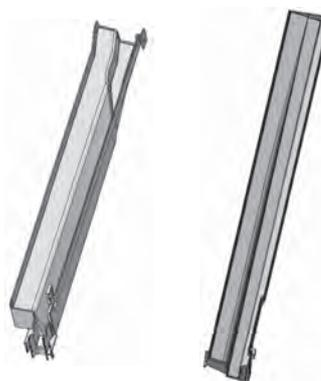

Figure 6
- (5) Clean inside the right and left drain pans. (See Figure 6.)